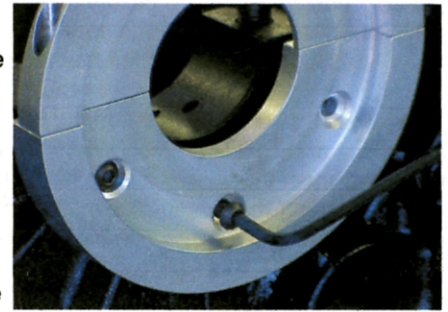

FIGURE 4
D) A few problems have occurred due to the block/ main caps assembly having been line bored at one time. Unfortunately, there is no easy way to determine this. It would be a good idea, especially if there is the slightest suspicion that the block may have been line bored previously, to install the Seal Housing without the seal in place, and install the crankshaft. Then, accurately measure the gap between the crank flange and the Seal Housing bore: it should be consistent throughout 360 degrees. If not, this would indicate that the block assembly has been line bored, causing the crankshaft to be off center within the seal. If this proves to be the case, drill the three countersunk holes in the upper Seal Housing 1/32" oversize and counterbore the three holes and replace the three countersunk screws with three 6mm x 16mm BHCS screws (Button Head Cap Screws). (Refer to FIGURE 4) This will allow sufficient movement to accurately center the assembly prior to final tightening. If you find this operation necessary, feel free to mail the aluminum half to me and I will perform the necessary machine work and return it promptly along with 3 new screws. All for free!